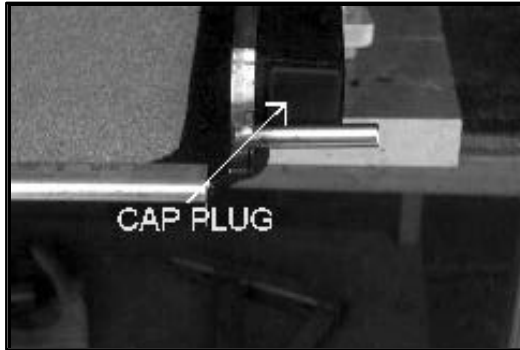

FIGURE 4-10: CAP PLUG LOCATION
- a. Refer to **Figure 4-10**. Remove two cap plugs in front outboard corners of ramp.